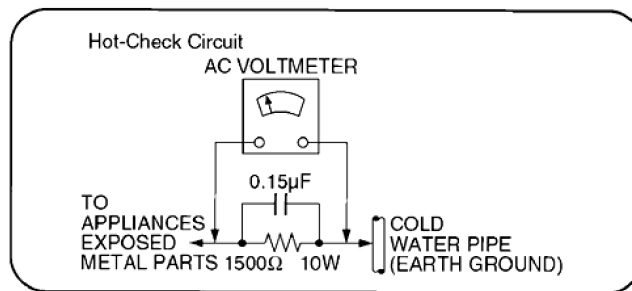

Fig. 1
### 1.1.2. Leakage Current Hot Check (See Figure 1)
2. Connect a  $1.5\text{k}\Omega$ , 10 watts resistor, in parallel with a  $0.15\mu\text{F}$  capacitor, between each exposed metallic part on the set and a good earth ground such as a water pipe, as shown in Figure 1.